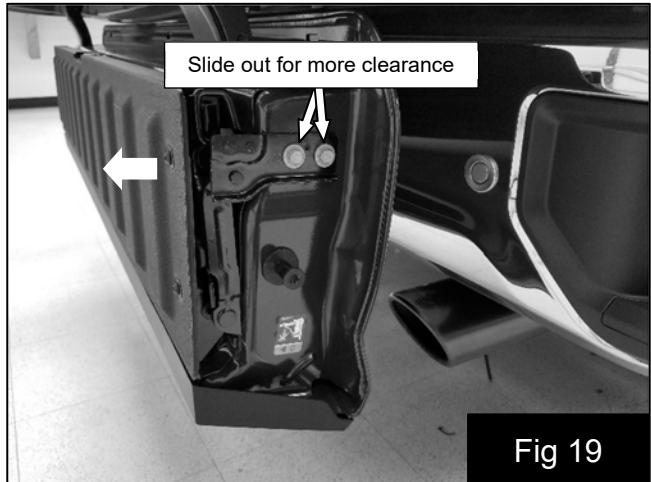

Fig 19
33. Close the step over the speaker baffle and check clearance from step to baffle. If additional clearance is needed open inner tailgate and loosen the two hinge bolts on each side. Slide step away from baffle and retighten hinge bolts. Recheck clearance and make sure step still closes easily. Fig 19